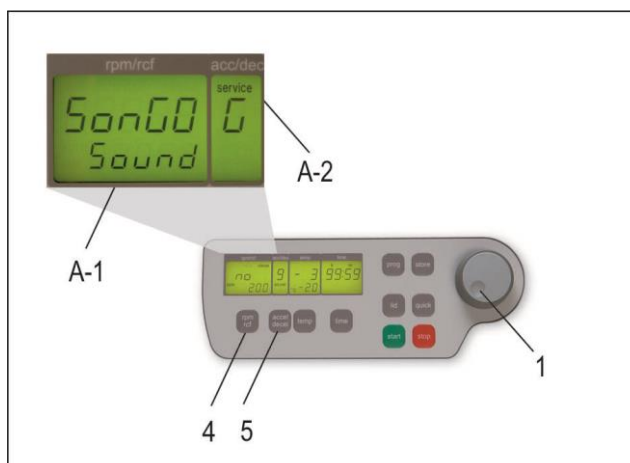

Figure 7
Proceed as illustrated, under point 1.8.1, to enter this program mode, press the key, "accel/decel" (5). In the display, "accel/decel" (A-2) flashes the word, "service". Select the letter, "G" with the adjustable knob (1). As a result, appearing in the display, "rpm/rcf" (A-1) the word, " SonGo/Sound". After pressing the key „rpm/rcf“ (4), you can select a song with the adjusting knob (1). (see Figure 7).